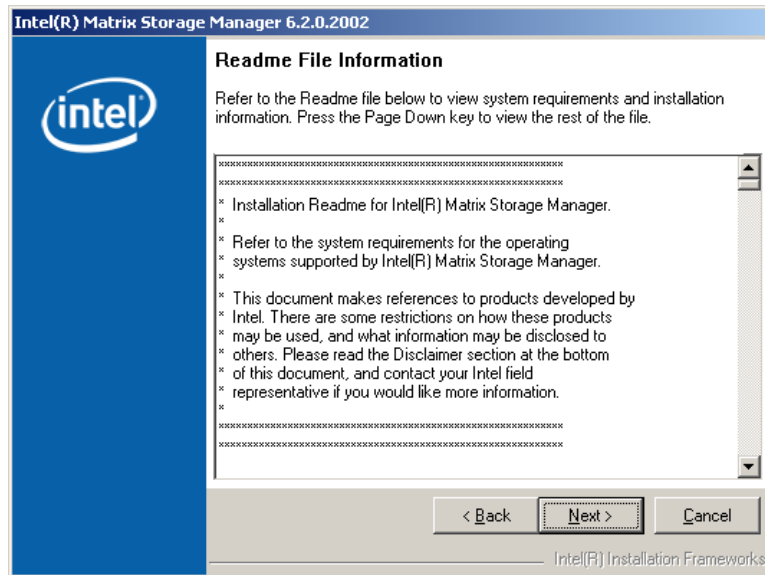

Figure 7-31: Matrix Storage Manager Readme File
Step 10: Read the license agreement. To accept the terms and conditions stipulated in the license agreement shown, click **YES** and the Readme information file shown in **Figure 7-31** appears.